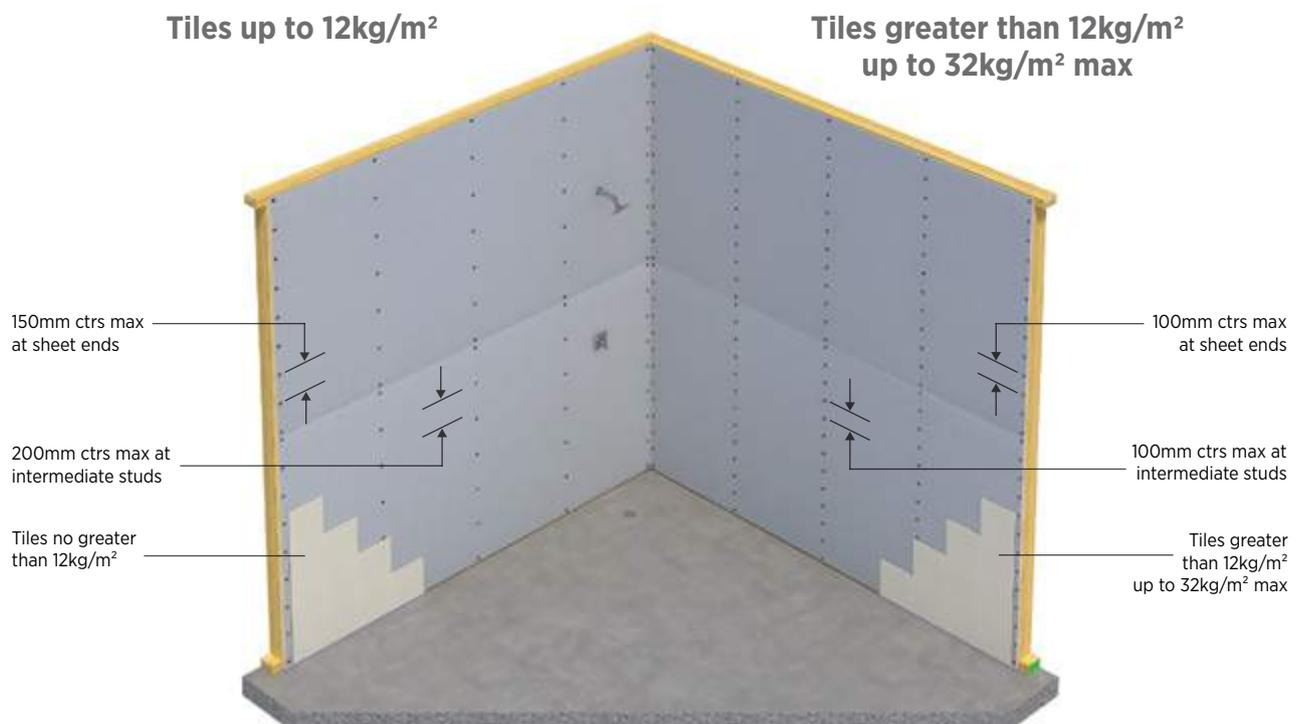

Figure 59: Plasterboard Fixing in Tiled Areas
- Space fasteners as per Table 27 and Figure 59.